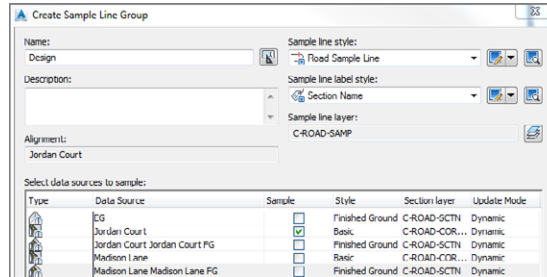

FIGURE 10.6 The Create Sample Line Group dialog box
- Verify that the settings in the dialog box match Figure 10.6, and click OK.